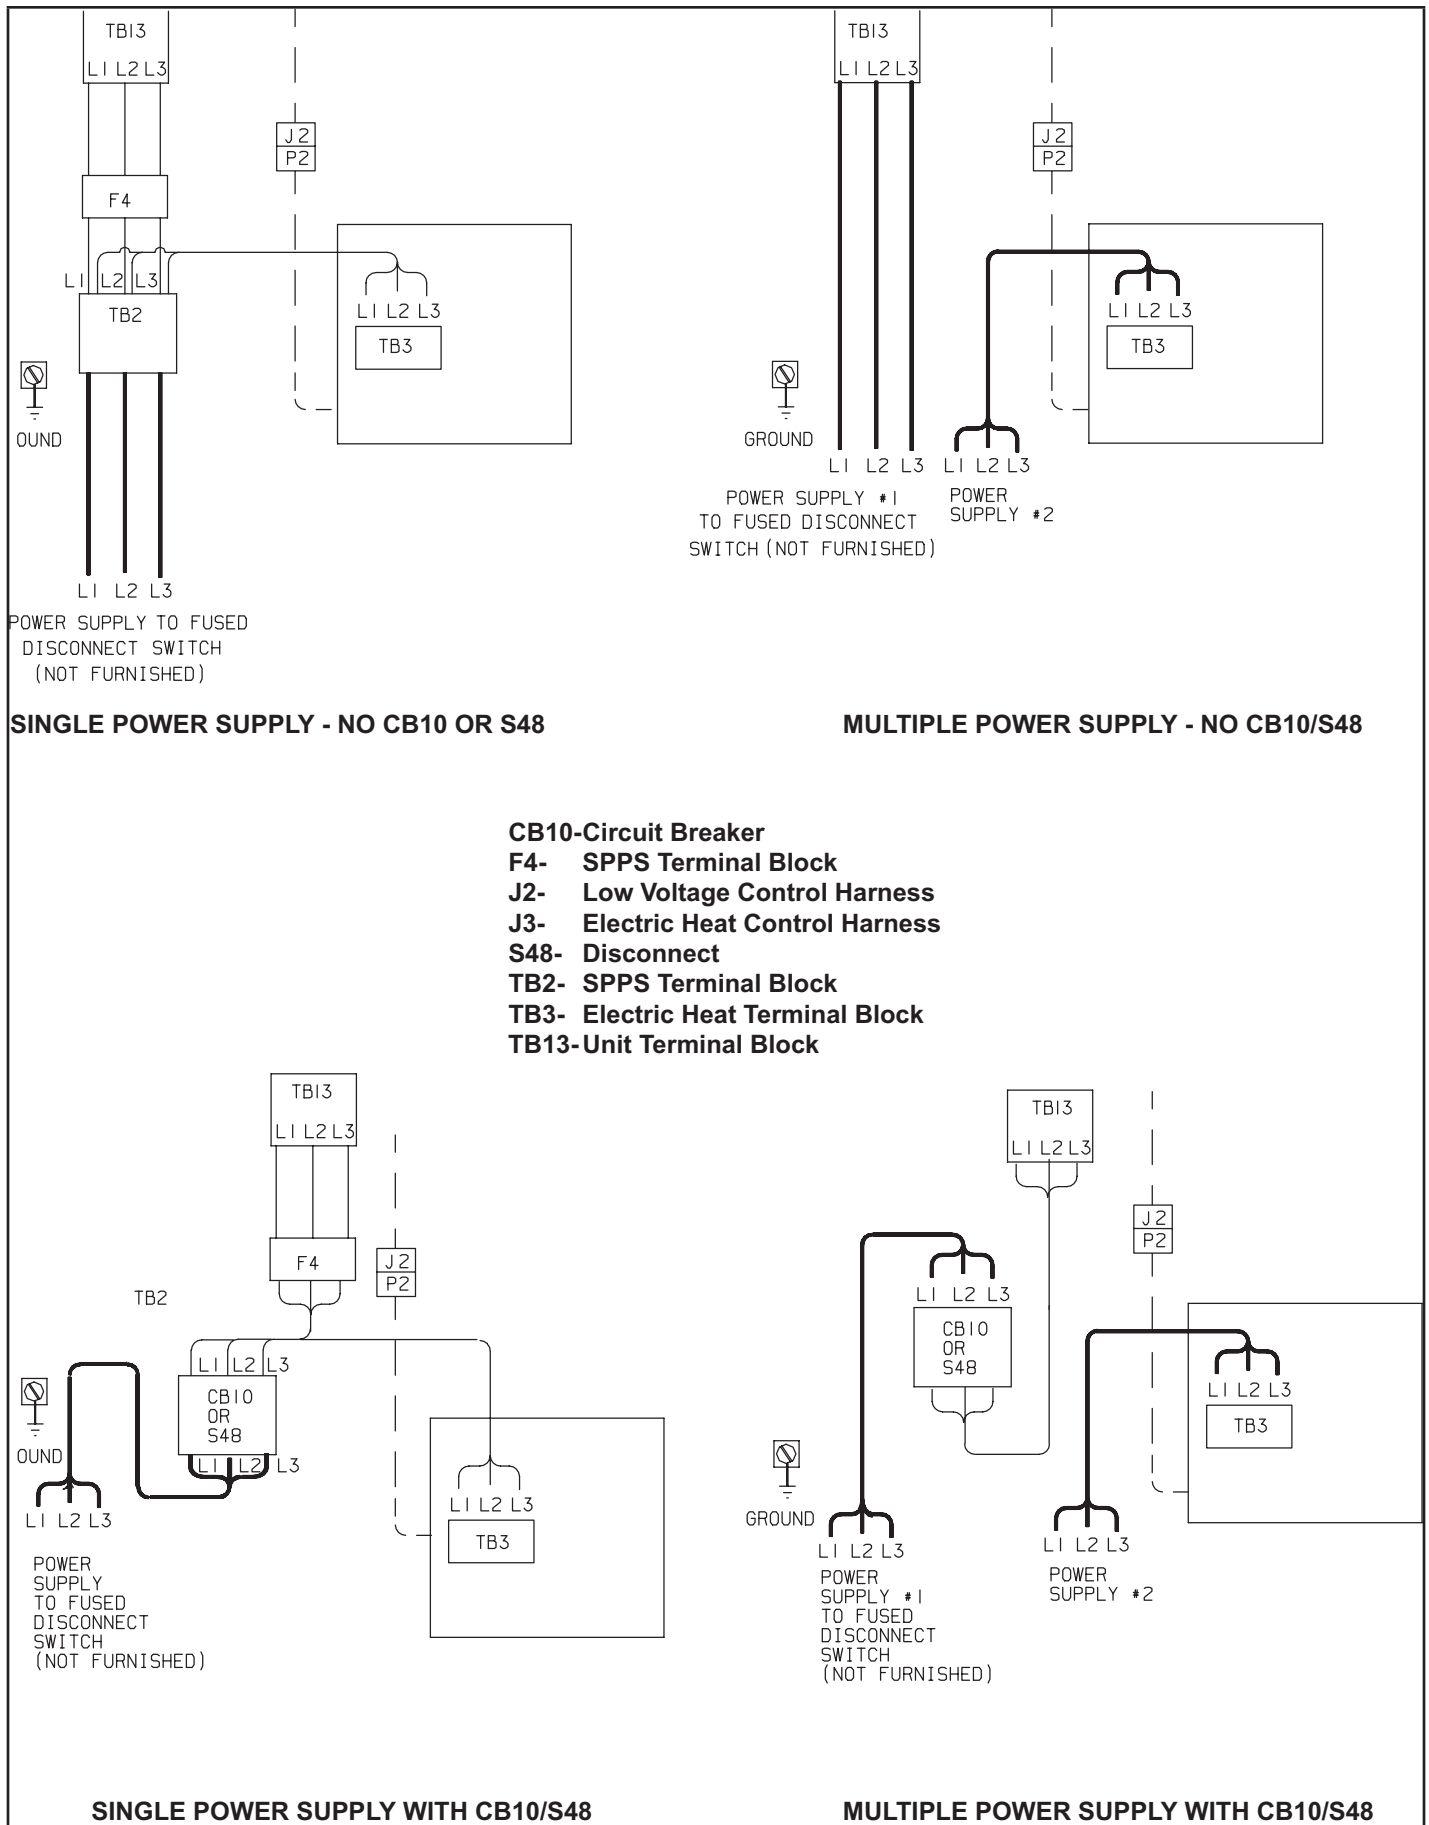

FIGURE 7
- 1 - Review heater installed nameplate for MCA values and enlarge power entry knockouts as needed. Refer to FIGURE 7 for field wiring.